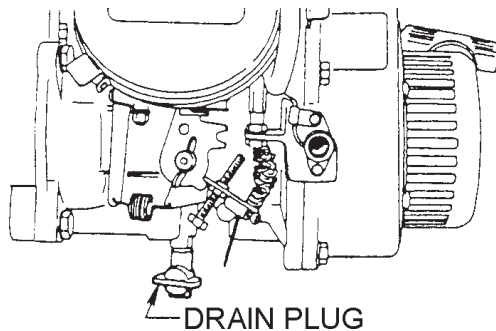

Figure 8. Drain Plug
- If the carburetor is flooded or the crankcase is loaded with excess fuel, open the drain plug as shown in (Figure 8) and drain out excess fuel.